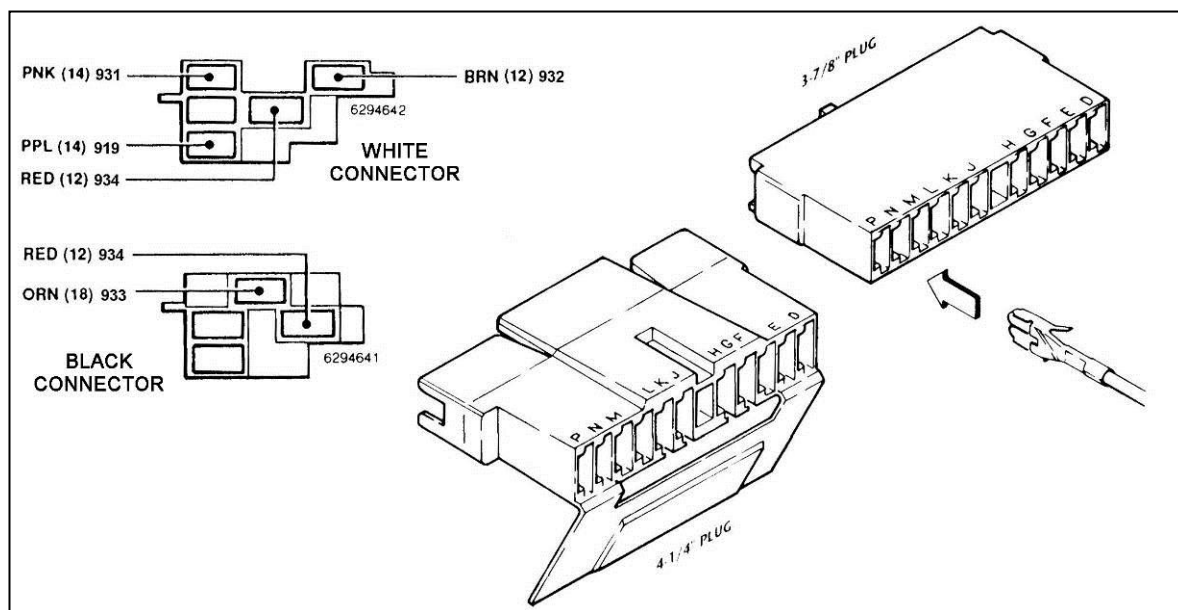

Figure 11-1 GM Turn Signal Connectors
11.1.1 There are two different plugs on most tilt columns. The difference is in the length of the male plug that is mounted ON THE COLUMN. One plug is 3-7/8" (3.875") long and the other is 4-1/4" (4.250"). This is only a difference of 3/8" (0.375"), so measure the plug carefully. The Wire Harness Kit has included two different female connectors to mate with the column-mounted plug. See **Figure 11-1** to determine which female connector is correct for your automobile.
You will need to cut the TURN SIGNAL SECTION wires to length and install the terminals provided. Choose the proper plug and install the terminals according to **Table 11-1**, as shown in **Figure 11-1**. The GM wire color codes have been included for reference. **Note:** The terminals will only insert into the connector **ONE WAY**, as shown in **Figure 11-1**. Make certain you are inserting the wire into the **CORRECT LOCATION** as the terminals are difficult if not impossible to remove once inserted.
- 11.1.2** The Steering Column Wiring comes with GM ignition switch connectors pre-wired. See **Table 11-1** and **Figure 11-1** for color codes, wire numbers, and wire designations for the Ignition Switch Connectors.